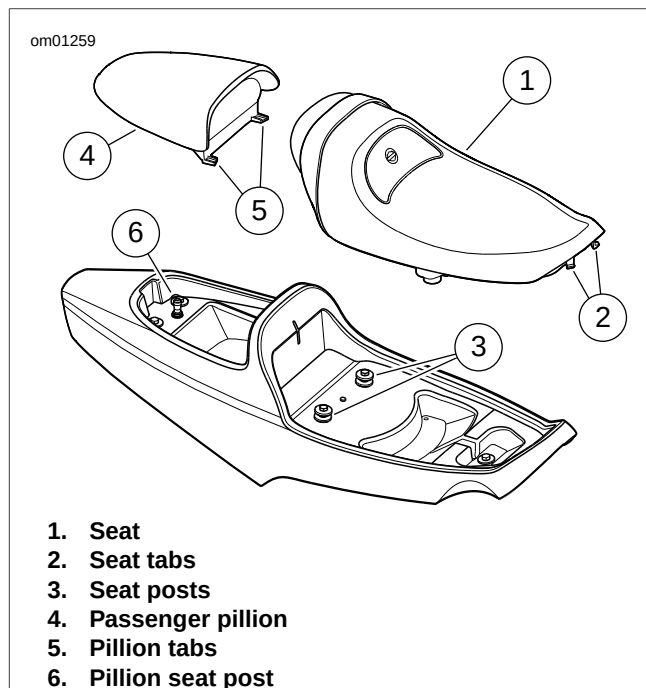

Figure 2-254. Seat and Pillion: XR 1200 Model
1. See Figure 2-254. Place rear of seat into tail section, aligning the guides in the seat bracket with the two seat posts.